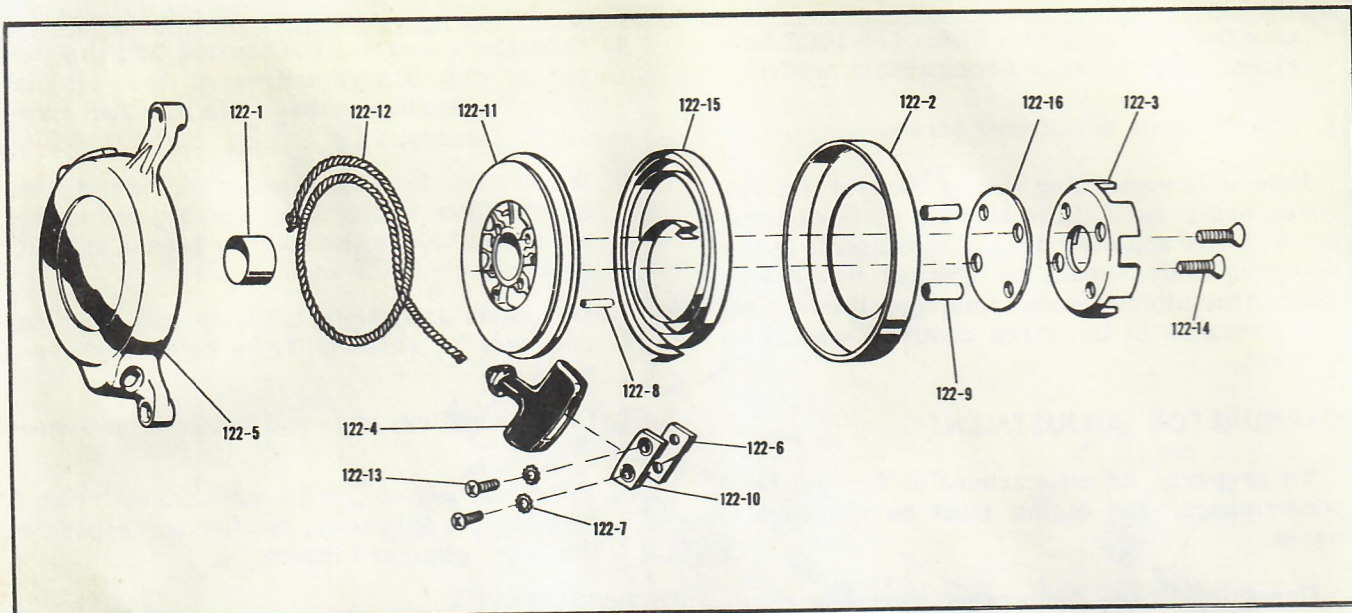

Figure 13. Exploded View of Starter.
3. To replace rubber handle, thread rope through handle. (See figure 13). Place end of rope at top and center and away from slot in insert. Form figure "S" around screw holes. Insert two screws and two washers in screw holes. Place plate in insert and tighten screws.